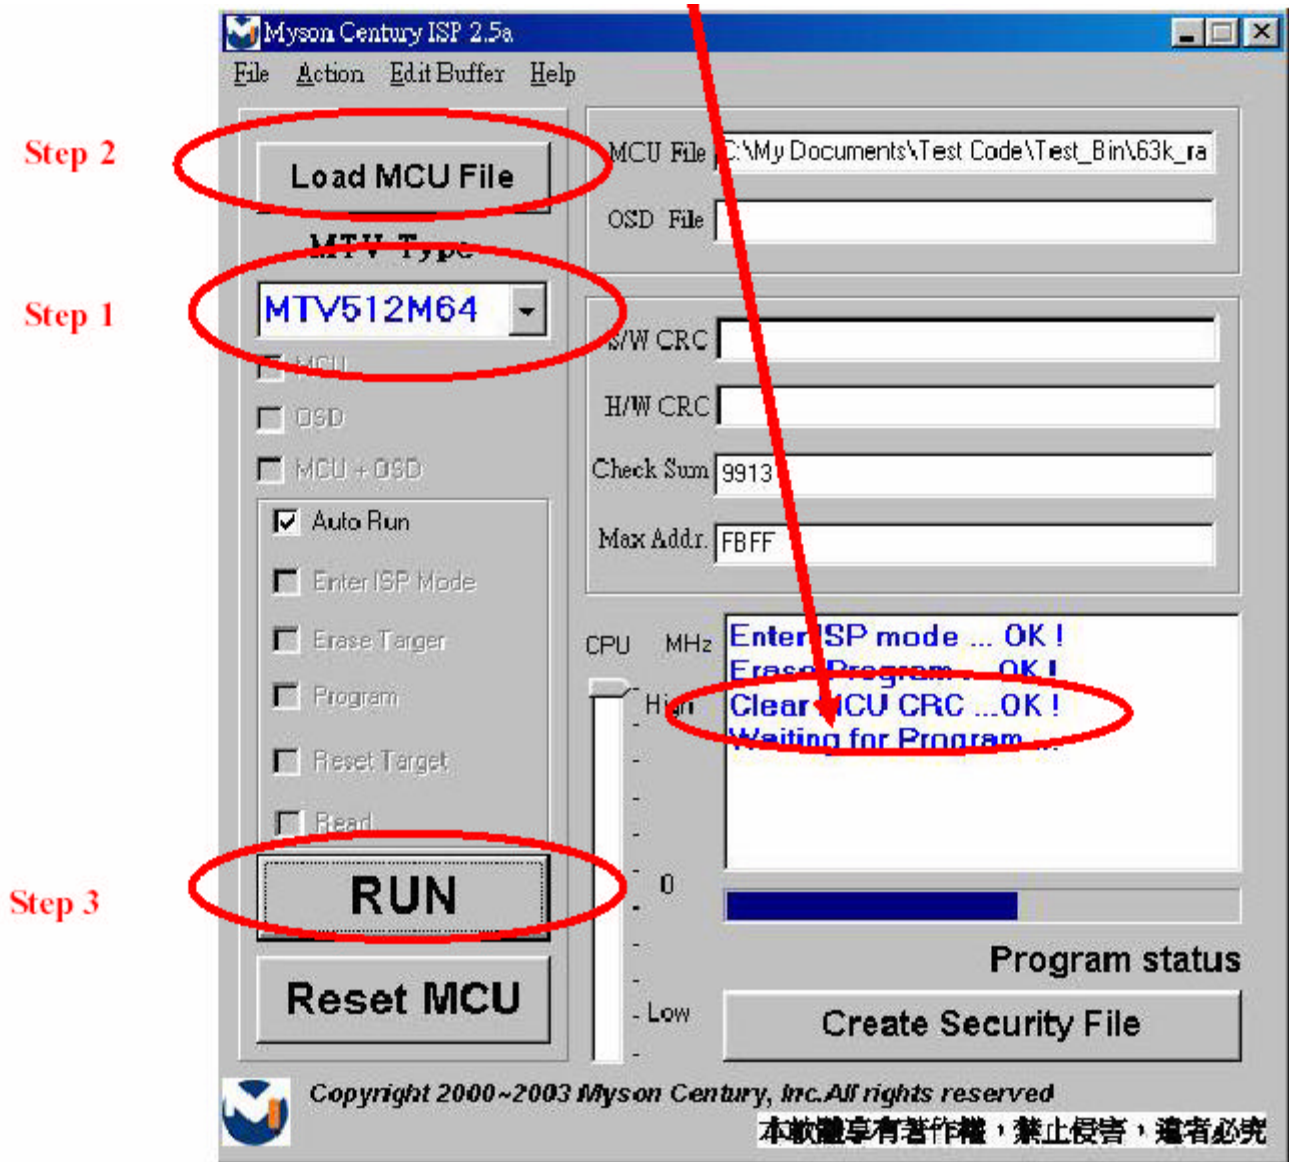

Fig 4.1
4.1 Select MTV type first, load the binary or Intel hex file that you want to program into the MCU, and select “ Auto ” item, then press “ RUN ” button, see Fig 4.1.